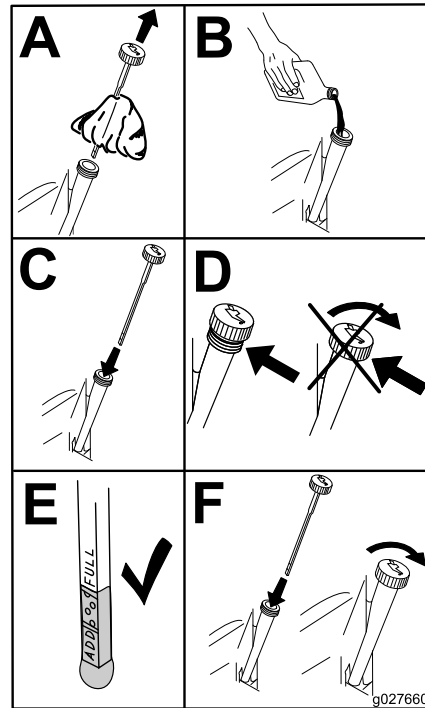

Figure 51
5. Slowly pour approximately 80% of the specified oil into the filler tube and slowly add the additional oil to bring it to the **Full** mark (Figure 51).